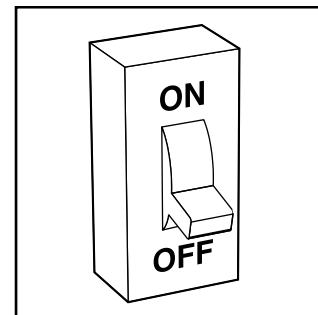

Fig. 9 - Turn Off Electrical Supply
3. Turn OFF electrical supply to the furnace. (See Fig. 9.)